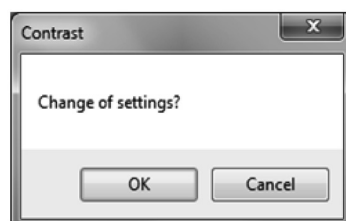

Fig.93
- ④ After the setting is complete, click the "OK" button to display a message box (Fig. 93).